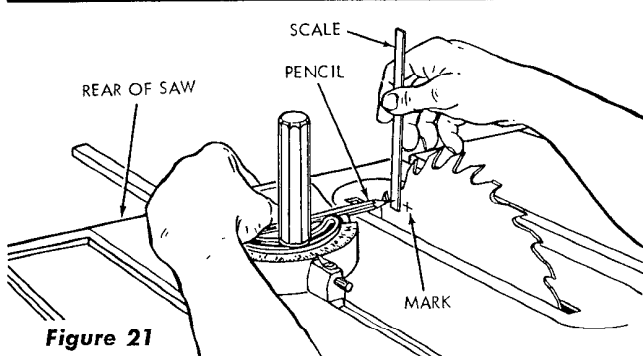

Figure 21
- d. Make a pencil mark on the saw tooth that is just above the table top at rear of the blade. (See figure 21.)
- f. Lay a soft-lead pencil in the depression just ahead of the miter gauge scale, with the pencil point toward the blade. (See figure 21.) Hold the pencil in the depression with thumb of left hand as shown in figure 21.
- (2) Shift the two trunnions until the preceding measurements are equal and tighten all four trunnion screws. Recheck measurements (figures 21 and 22) to make sure tightening the screws did not alter the setting.